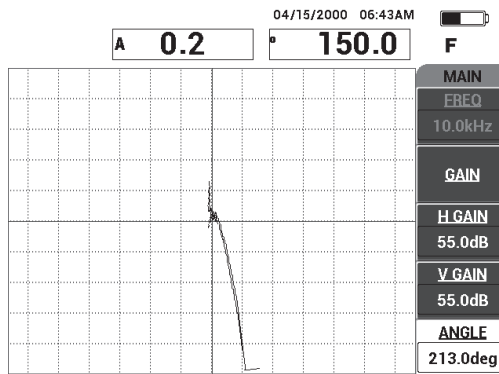

Figure 6-33 Adjusting the signal angle upwards
7. Press the MAIN menu key () , then press **ANGLE** (E key) and adjust the signal angle so that the disbond signal points upwards at 90° (see Figure 6-33 on page 153).